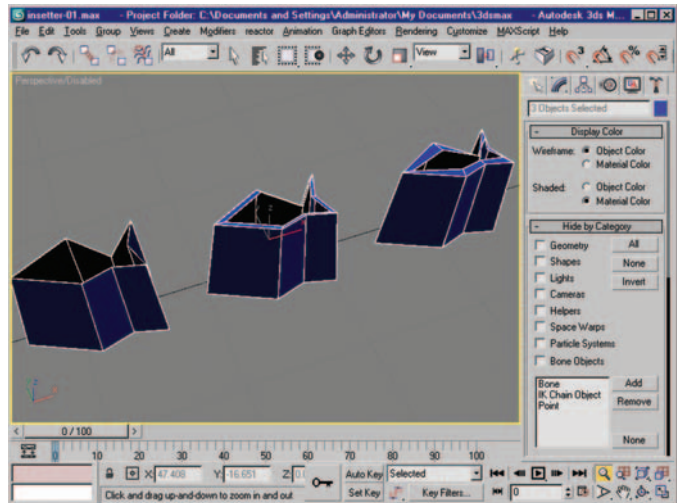

Figure 3.33 Original mesh (left), shift-scaled border (center), border after nonuniformly scaling (right). None of these results is desirable.
4. Let’s try shift–scaling the top border selection to create an even inset ... you can see for yourself the result is not what you were expecting (Figure 3.33, middle).
5. Take this a step further; try scaling the new border in one direction to compensate or adjust its shape ... still not what we want, is it? See Figure 3.33.